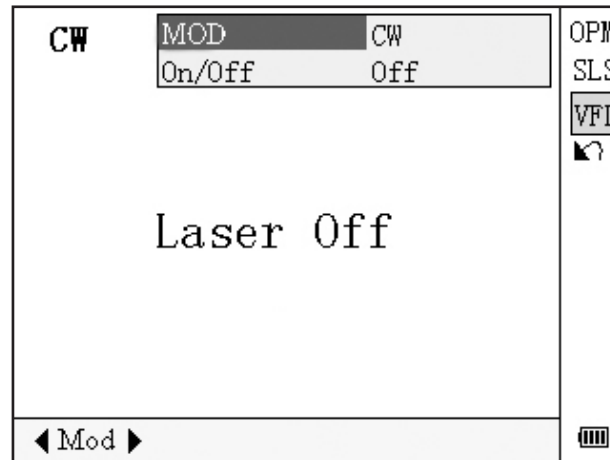

Figure 4-15. Visible Fault Locator Setting
- Use ◀ and ▶ to toggle between VFL working modes. Press Enter to enter VFL setting interface (Figure 4-15).